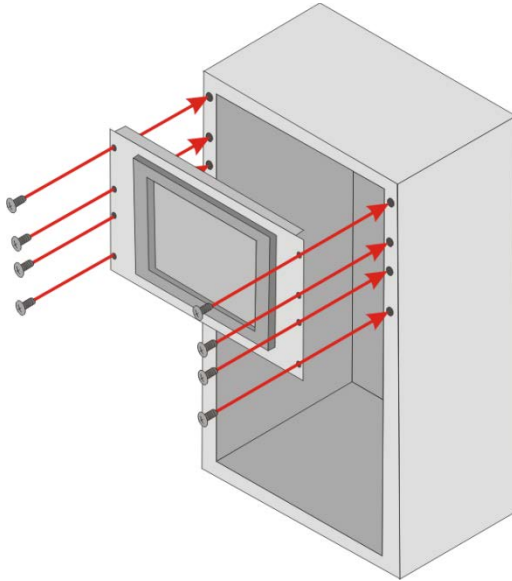

Figure 3-25: Install into a Rack/Cabinet
Step 4: Slide the PPC-FxxC-Q370 with the attached rack/cabinet bracket into a rack or cabinet (**Figure 3-25**).
Step 5: Once the panel PC with the attached rack/cabinet bracket has been properly inserted into the rack or cabinet, secure the front of the rack/cabinet bracket to the front of the rack or cabinet (**Figure 3-25**).